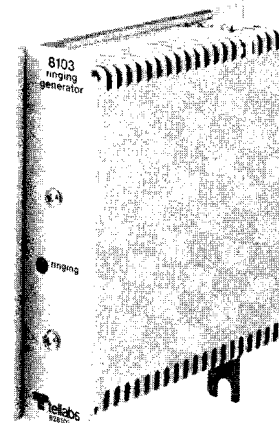

figure 2. 8103 with KTU rail-mounting brackets installed
- B. Install the KTU mounting brackets on the 8103 as shown in figure 2. Appropriate no. 4 x 1/2-inch sheet-metal screws are supplied with the 8103.